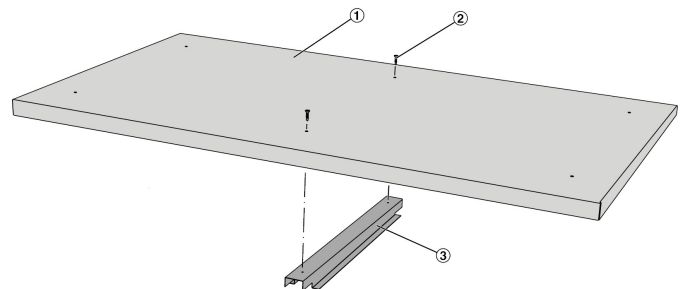

Fig. 17: Fixing the central roof support
- ▶ Fix the central roof support ( Fig. 17 /3) with self-tapping screws ( Fig. 17 /2) to the roof ( Fig. 17 /1).